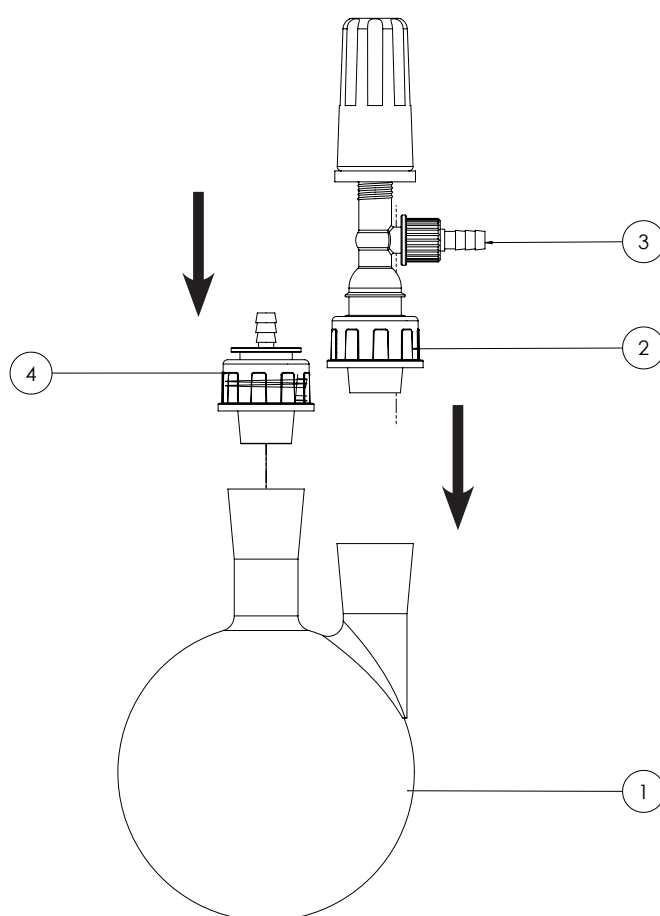

Fig. 22 : Receiver Flask Assembly
- Insert the straight adapter and pressure relief valve into their designated ports as shown in fig. 22.